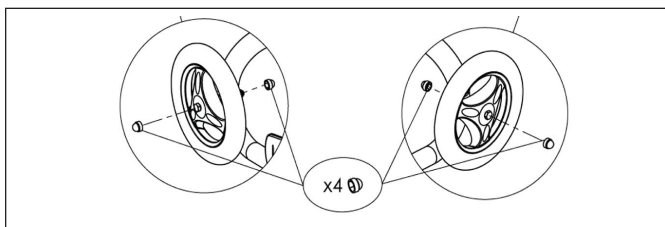

Figure 9. Attaching Wheel Caps
7. Place two (2) caps on the wheels as shown in Figure 9.